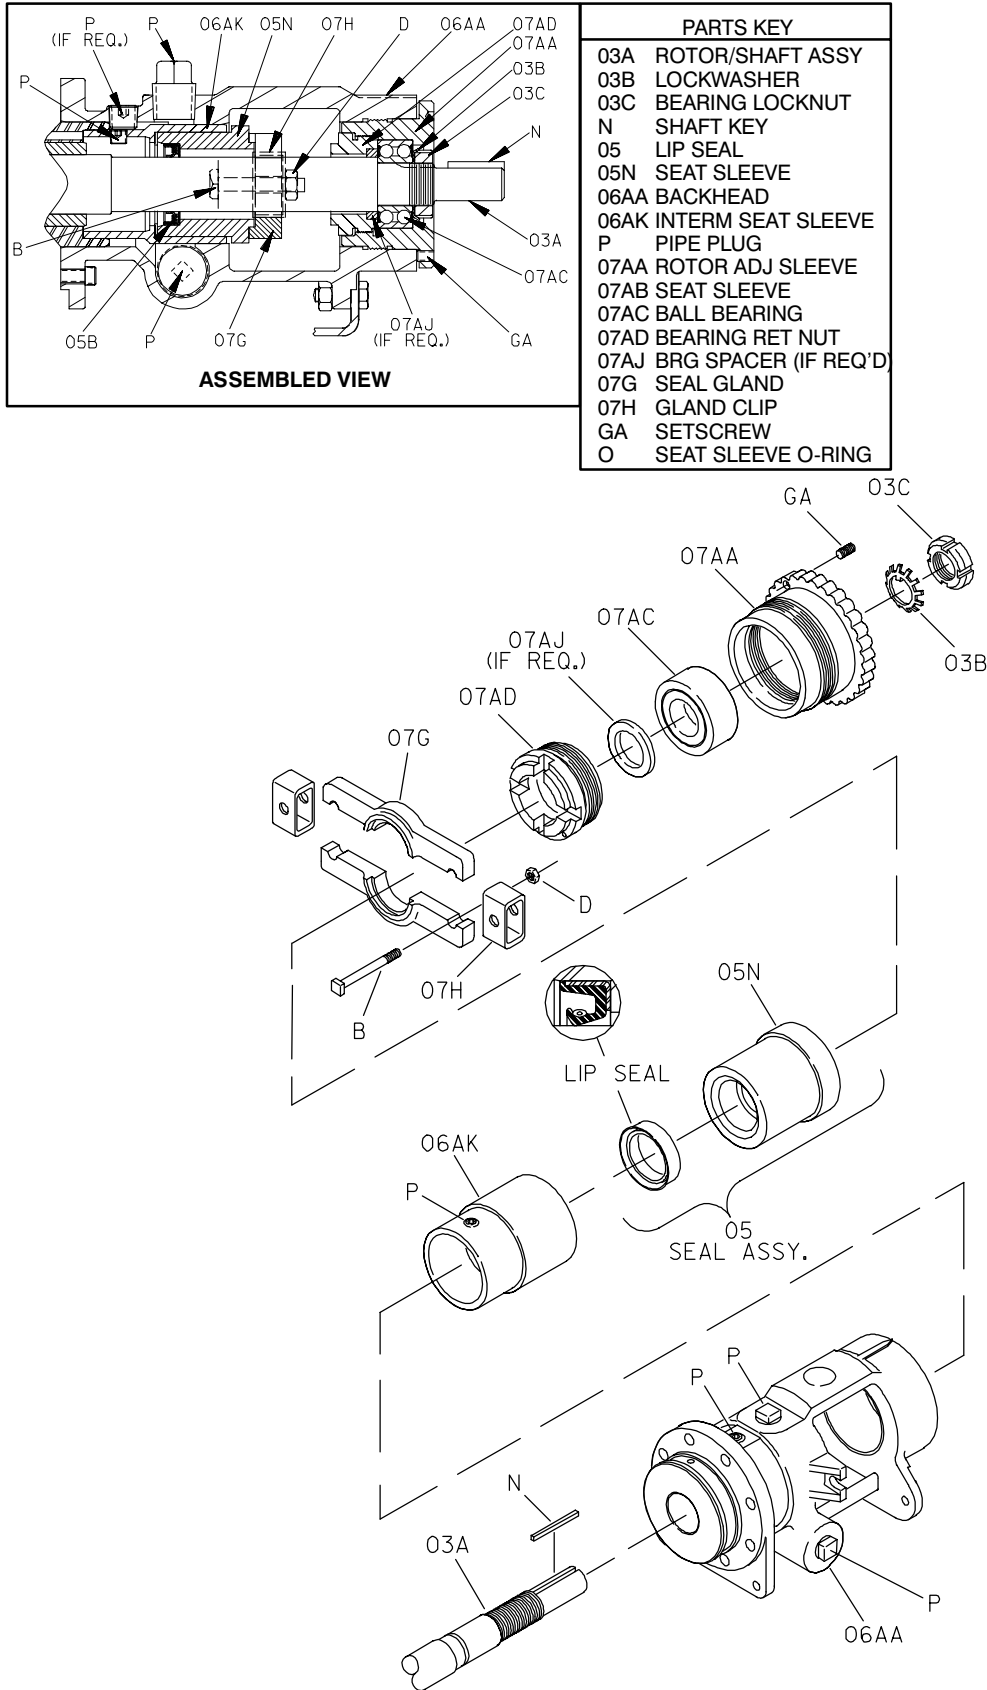

Figure F-4. 65C Optional Lip Seal
Position the seal gland (06I) on a flat surface with the drive end up. Press the lip seal (05) into the seal gland with the lip positioned as shown in Figure F-4.